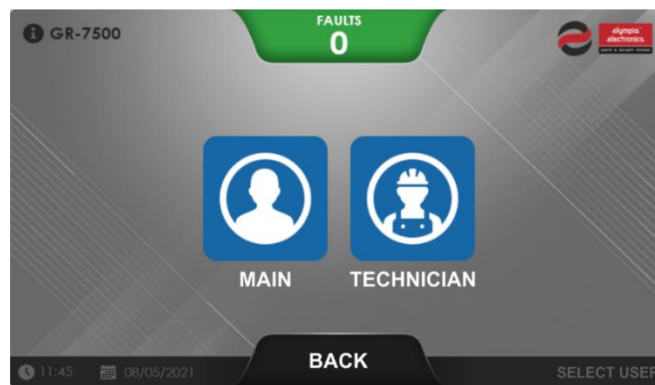

Figure 28
By selecting the “**SELECT USER**” icon (Figure 20, ref 8), you have the options to choose between **MAIN** or **TECHNICIAN** user (Figure 28). Selecting either of them will open a menu with all the available options for that user. Please note that to access the technician menu, the tech code must be entered (ref. to chapter 5 **TECHNICIAN MENU**).